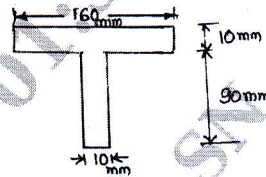

Fig. Q2 (b)
b. For the T-section shown below in Fig. Q2 (b), determine moment of inertia about centroidal X-X and Y-Y axes and hence find least radius of gyration. (14 Marks)